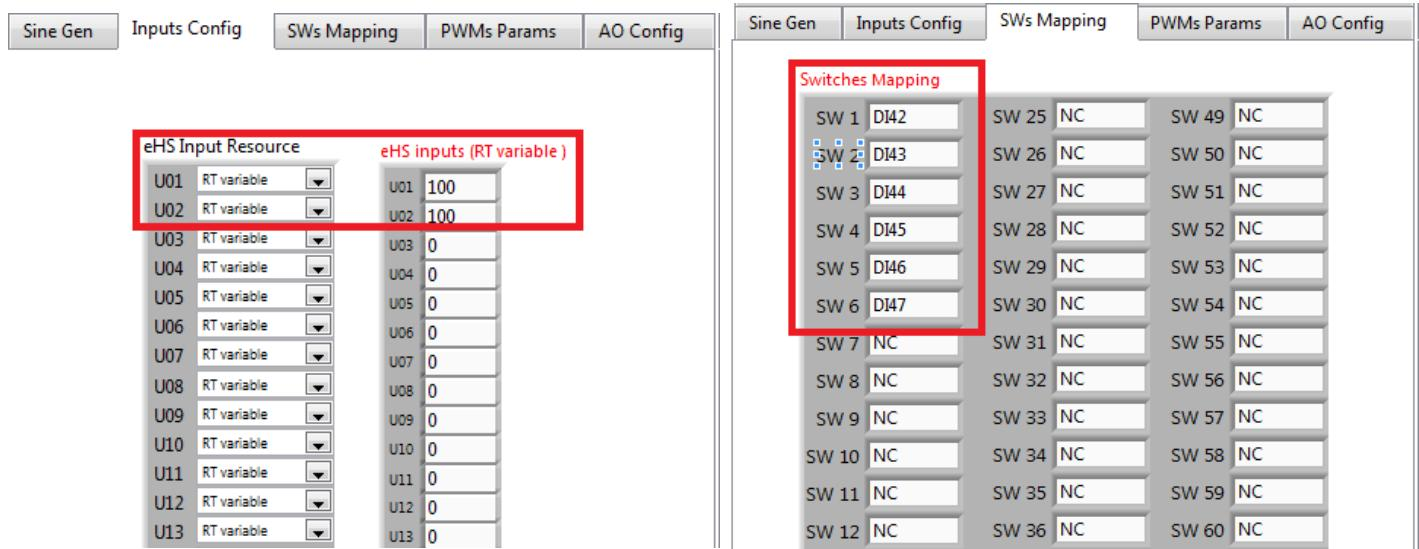

Figure 72: Input resources and switches mapping for 3 phase Inverter.
Step 5: From the **Inputs Config** tab select **RT variable** for *U01* and *U02* and then modify eHS inputs *U01* and *U02* to be **100** volts. From the **SWs Mapping** tab, route the external SPWM signals to SW01-SW06 (See Figure 72).